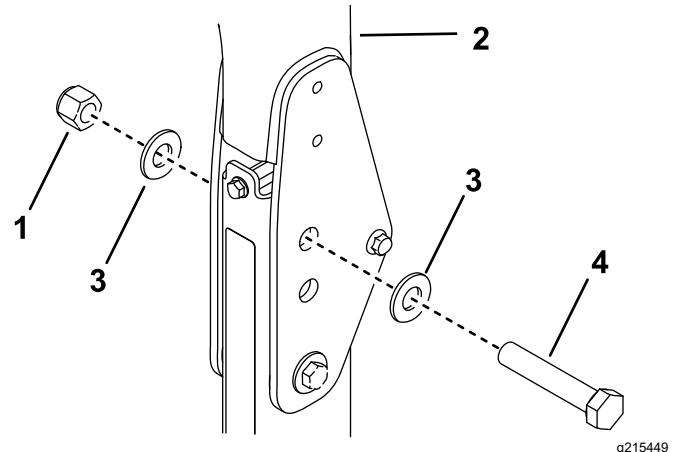

Figure 37
2. Insert a washer (13/16 x 1-1/2 inches) onto each bolt (3/4 x 4 inches) as shown in Figure 37.
3. In the holes where the pins were removed, install the bolts and washers (Figure 37).
4. Install another washer onto each bolt and secure with nut (3/4 inch) as shown in Figure 37.